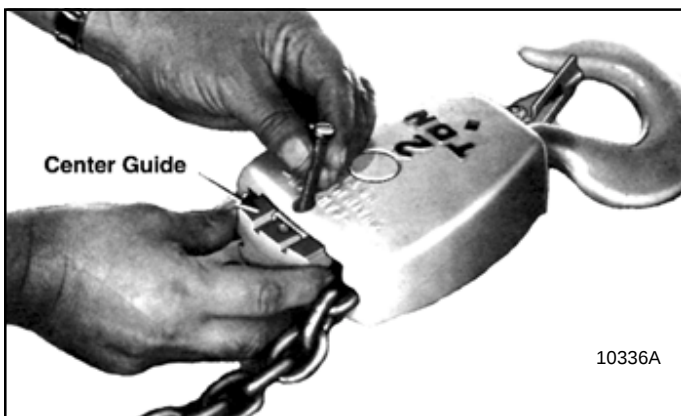

Figure 7-27. Removing Chain Center Guide from 2 through 5 Ton Lower Block Assembly
(1) Remove fillister head screw securing center guide in top of lower block body and lift out guide (fig. 7-27) and sprocket pin lock (fig. 7-28). Press sprocket pin from body and pull out chain, sprocket and washer (fig. 7-29). Do not remove bushing type bearing from sprocket or pressure lube fitting from sprocket pin unless replacement is necessary.